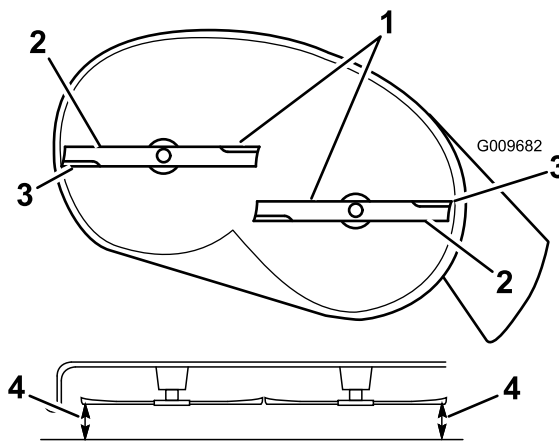

Figure 51
- Carefully rotate the blade(s) side to side (Figure 51). Measure between the outside cutting edges and the flat surface (Figure 51). If both measurements are not within 3/16 inch (5 mm), an adjustment is required; continue with this procedure.